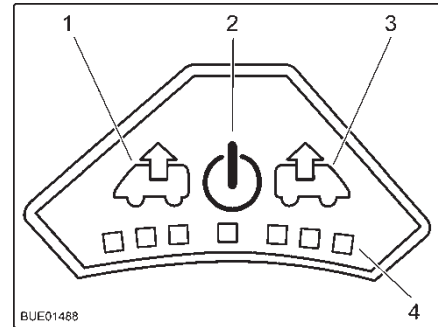

Fig. 86 Control panel for fan
Switching on: ■ Press the On/Off button (Fig. 86,2). The fan runs in comfort mode (venting at slowest fan speed).
Venting: ■ To increase the fan speed: Press the Vent button (Fig. 86,1). The fan speed in the venting direction increases by one level. LEDs (Fig. 86,4) show the operating levels.
■ To lower the fan speed: Press the Aerate button (Fig. 86,3). The fan speed decreases by one level.
- To increase the fan speed: Press the Aerate button (Fig. 86,3). The fan speed in the aerating direction increases by one step. LEDs (Fig. 86,4) show the operating levels.
- To lower the fan speed: Press the Vent button (Fig. 86,1). The fan speed decreases by one level.
- Press the On/Off button (Fig. 86,2). The fan stops, the LEDs go out.